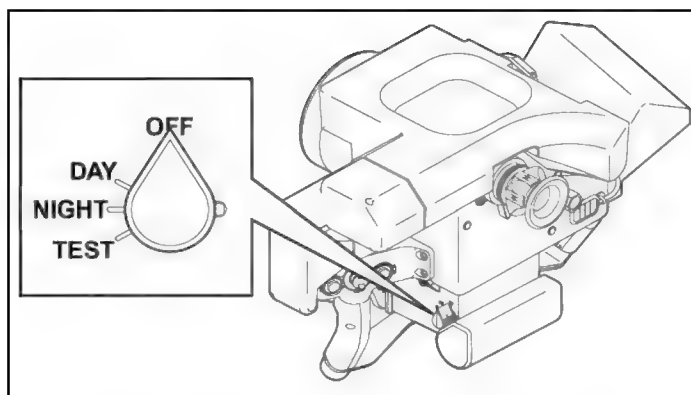

Figure 2-2. Power switch positions.
b. **Power Switch.** The power switch is a rotary switch located on the lower rear corner of the left-hand side of the CLU main housing (Figure 2-2). The power switch controls the Javelin's mode of operation and each position brings different components of the Javelin into operation. The power switch has four positions: OFF, DAY, NIGHT, and TEST.